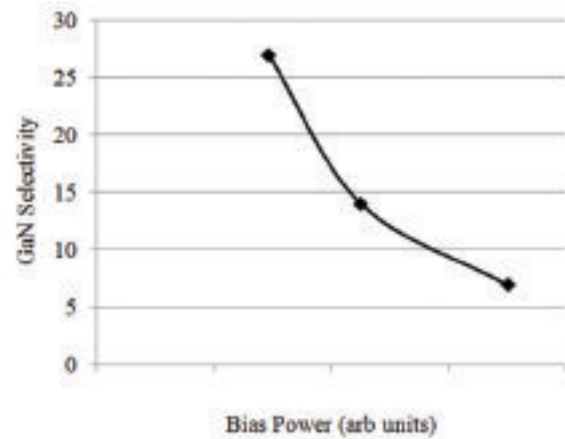

FIGURE 4.
**FIGURE 4** shows selectivity to the GaN underlayer across a similar bias power range. The improvement in selectivity with reducing bias power makes a 2 step (soft landing) approach appropriate for this application.